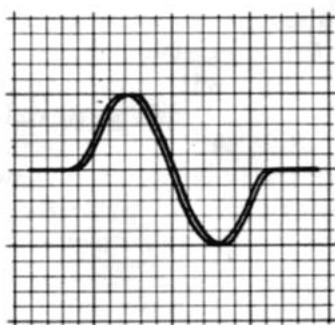
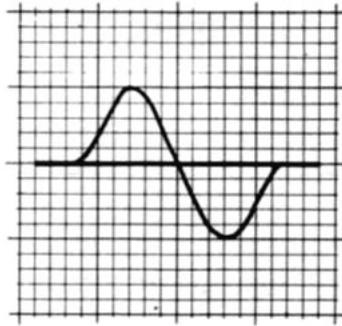

FIG. 12. DISCRIMINATOR RESPONSE - IN PHASE - BLANKING OFF
FIG. 13. DISCRIMINATOR RESPONSE – BLANKING ADJUSTED
5. Advance **VERTICAL GAIN** until the pattern is about one inch high. The pattern will be two S-shaped response curves. Adjust the **PHASING** control to bring the curves in phase as shown in figure 12.
6. Adjust **F.M. SWEEP** so the response curve covers most of the horizontal trace as shown in figure 12. Readjust the **PHASING** if the traces are not superimposed. If the response curve is not centered on the trace, reset the **CENTER FREQUENCY** pointer to center the pattern. Advance the **BLANKING** control to produce a pattern as shown in figure 13; a single curve with a base line through it.
11. Adjust the discriminator primary (L8 in figure 11) until a maximum amplitude symmetrical pattern is achieved as shown in figure 13. Reduce the F.M. ATTENUATORS as the amplitude of the curve increases. Recheck the secondary adjustment if the 400 cycle pattern re-appears.